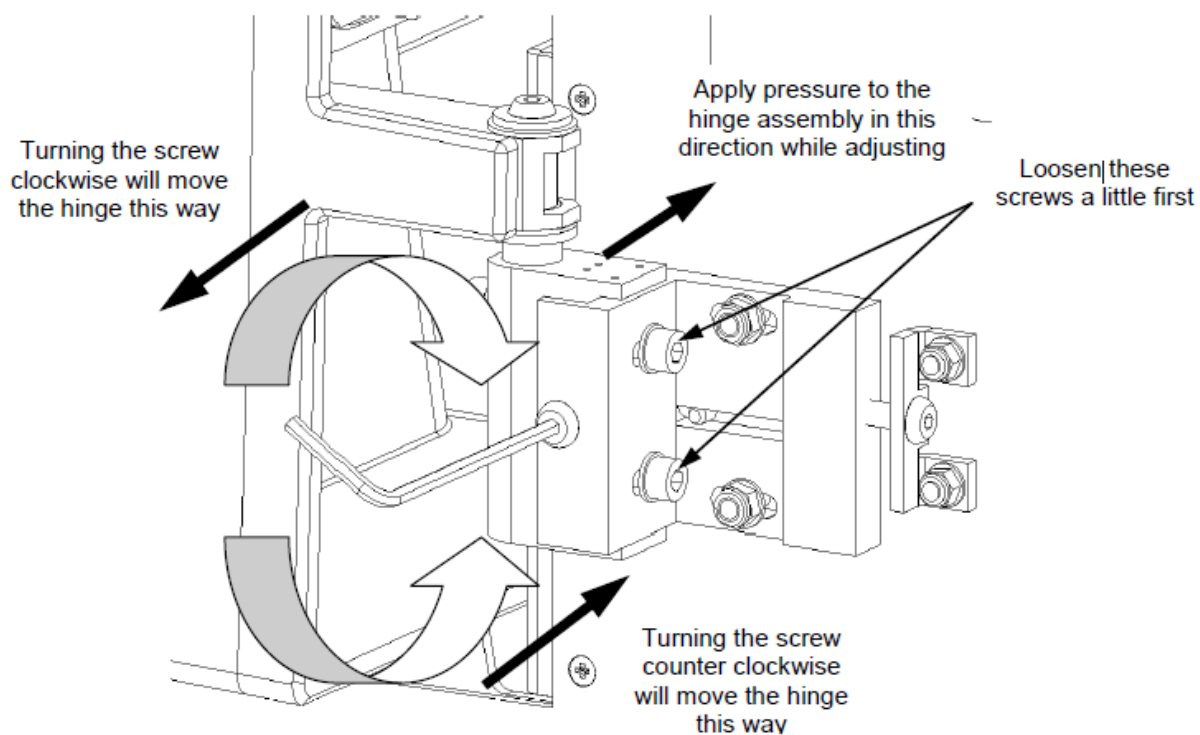

Figure D-5: Adjusting the Door Hinge
3. Loosen the screws as shown in Figure D-5.